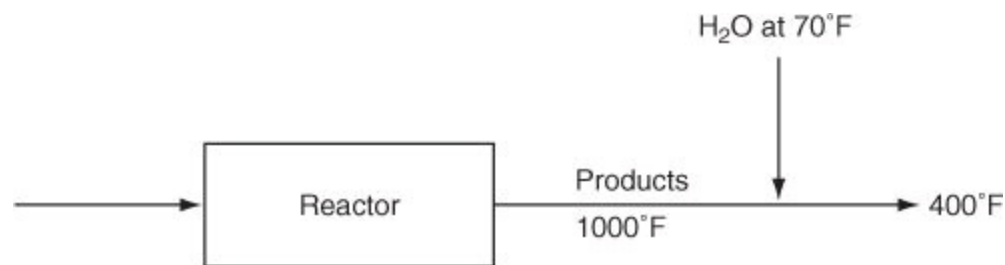

Figure P9.3.20
****9.3.20.** Hot reaction products (assume they have the same properties as air) at 1000°F leave a reactor. In order to prevent further reaction, the process is designed to reduce the temperature of the products to 400°F by immediately spraying liquid water into the gas stream. Refer to Figure P9.3.20.